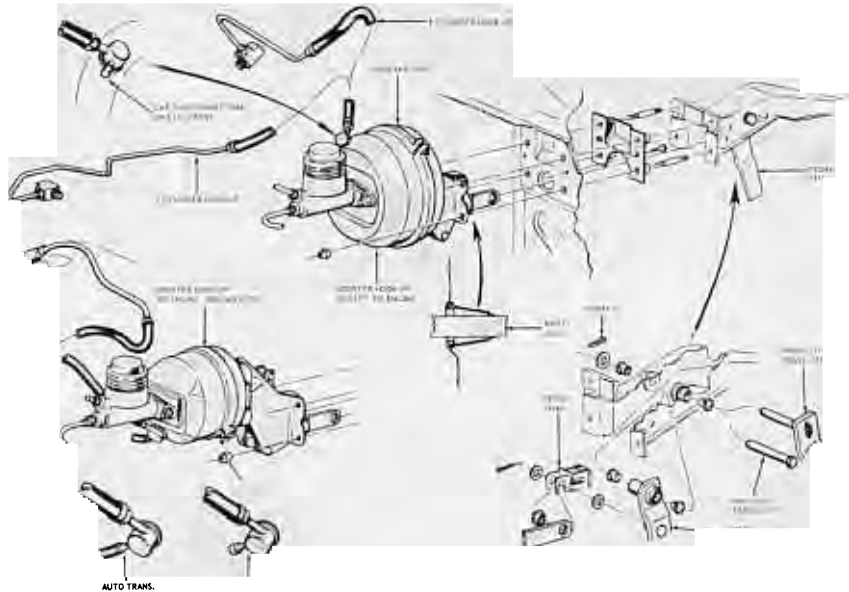

FIG. 25—Vacuum Booster Installation—Comet-Fairlane-Falcon
2. Remove the hairpin type retainer. Slide the stop light switch off the brake pedal pin just far enough for the switch outer hole to clear the pin, and then lower the switch away from the pin. Slide the master cylinder push rod link and the nylon washers and bushing off from the brake pedal pin (Fig. 25 or 26).
4. Working from inside the car, install the inner nylon washer, the master cylinder push rod link, and the bushing on the brake pedal pin. Position the switch so that it straddles the push rod and the switch slot on the pedal pin and the switch outer hole just clearing the pin. Slide the switch completely onto the pin, and install the outer nylon washer as shown in Fig. 25 or 26. Secure these